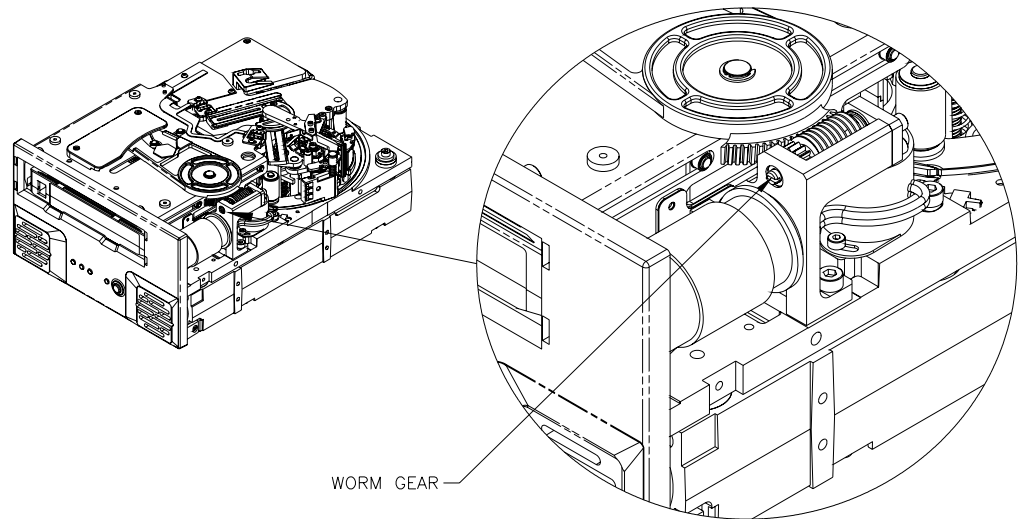

Figure 17. Diagram of Viper 200 showing worm gear
2. Use a flat-blade screwdriver to turn the worm gear counter clockwise (to the left). Figure 17 shows the location of the worm gear. This will gradually raise the cartridge elevator and cause the cartridge to slide partially out of the drive.